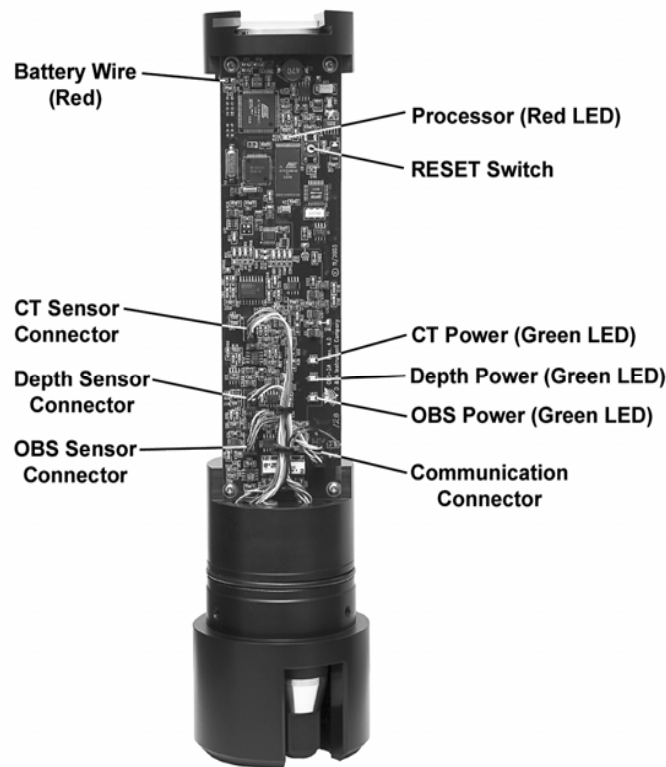

Figure 7 Component locations
- Open unit and inspect for broken sensor and communication wires and loose connectors (Figure 7).